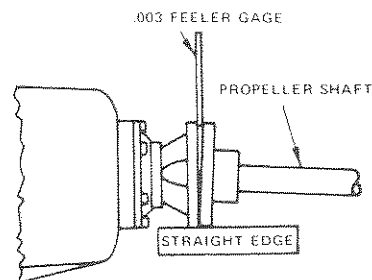

Figure 1.
- (1) Alignment (Error to be no more than one thousandth of an inch per inch of coupling diameter) (See Figure 1)
- (2) Provide sufficient ventilation
- (3) Provide adequate service room around engine (See warranty clauses)